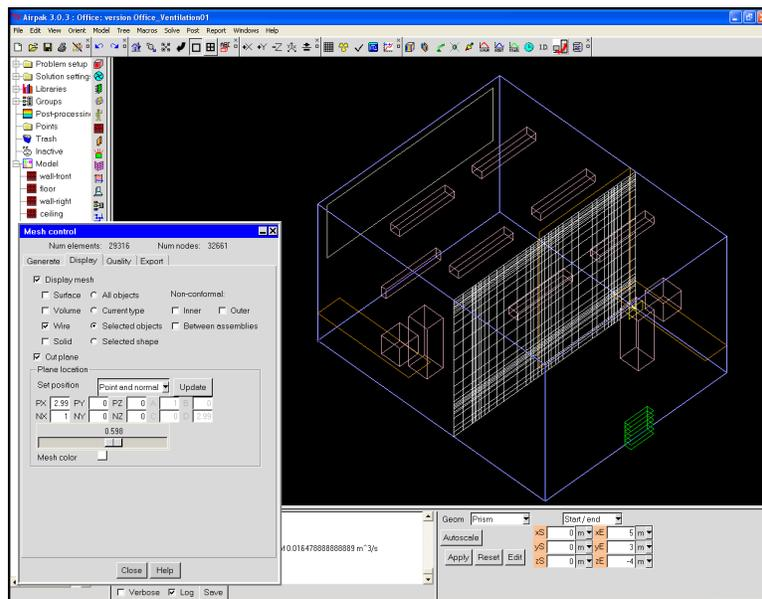

Figure 1.7: Fine Mesh on the  $y-z$  Plane
*The graphics display will be updated automatically to show the new mesh (Figure 1.7). You can move the two square boxes in the Display section of the Mesh control panel to advance the plane cut and view the mesh throughout the model.*